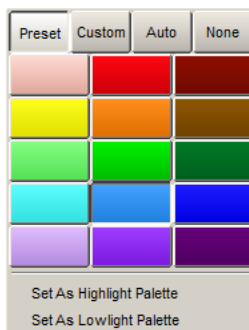

Figure 13.13. The Preset Colour Options
2. Click on one of the 15 options shown in *Figure 13.13, "The Preset Colour Options"* to assign the directory item this colour.